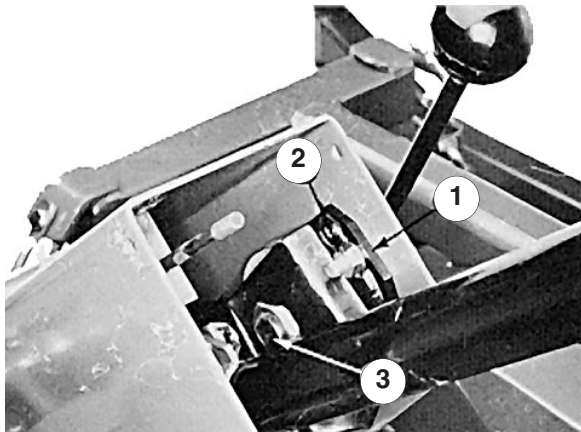

Figure 43
1. Remove the knob from the parking brake and the self-tapping screws from the steering column cover. Slide the cover up the steering shaft to expose the pivot bracket (Fig. 43).
2. Loosen the small nut, rotate pivot bracket until it tightens the large nut below (Fig. 43). Retighten the small nut.